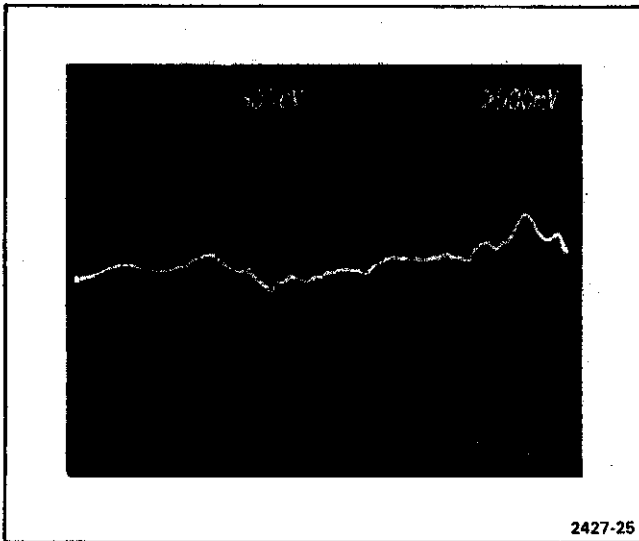

Figure 5-3. Display of frequency-response curve at 0.5 mV/Div.
- h. Use the 7A22 Offset controls to position the frequency-response curve to the center of the display. Set the reference frequency marker to the center horizontal graticule line. Figure 5-3 shows this display.